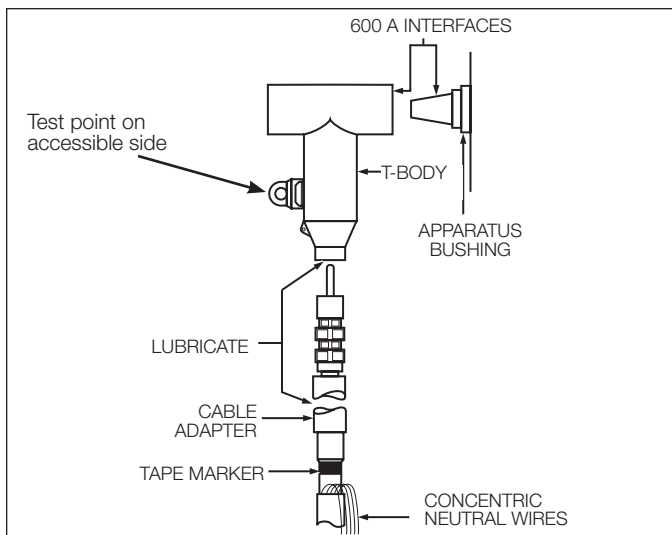

Figure 12.
- Without moving the cable adapter, slide T-Body onto cable adapter until compression connector eye is centered in 600 A interfaces. (Refer to Figure 12.)